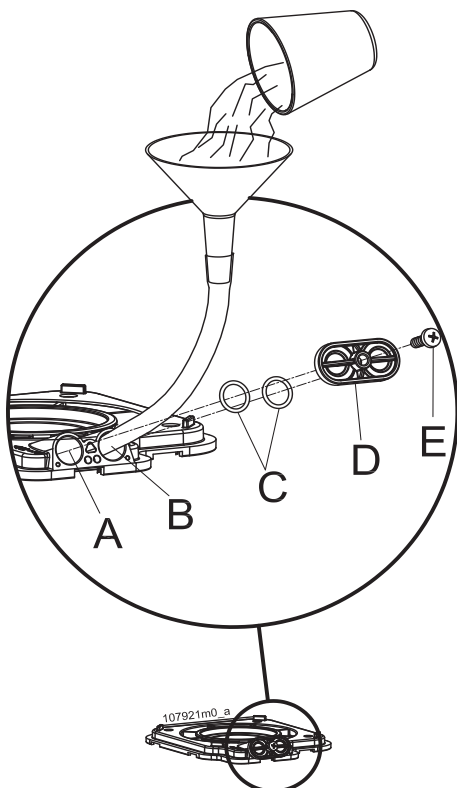

Figure 33 - Filling the condensate trap
1. unscrew "E" screw (Figure 33);
2. remove flange "D" and O-Rings "C" (Figure 33)
3. With a rubber tube and a funnel, slowly pour approximately 4 oz. (100 ml), of water into the "B" opening - DO NOT put water into the "A" opening (Figure 33);
4. re-install flange "D" and O-Rings "C" and reinstall screw "E" (Figure 33).